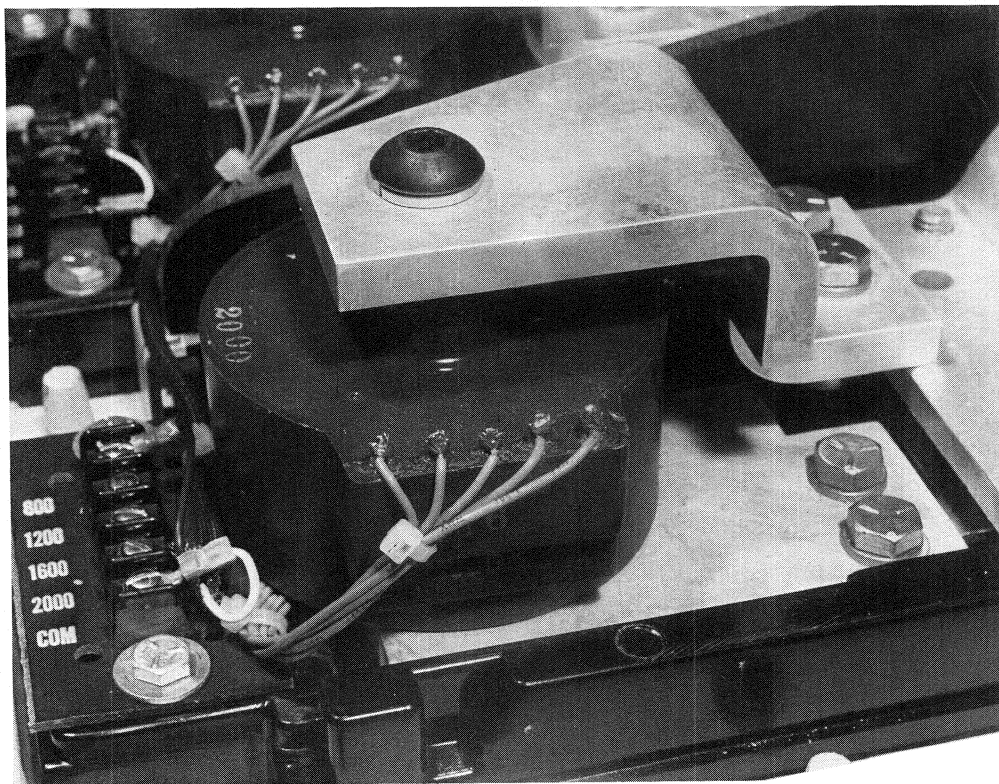

Fig. 11 — SST current sensor mounting.
2. Mount the three (3) phase sensors (100) and their terminal boards as shown in Figs. 11, 12 and 13.